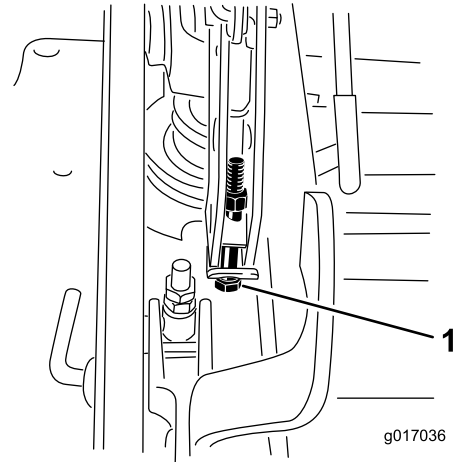

**Figure 95**
11. To adjust the single-point system, loosen the 2 bolts at the bottom of the height-of-cut plate (Figure 95).
13. Tighten the 2 bolts at the bottom of the height-of-cut plate (Figure 95).